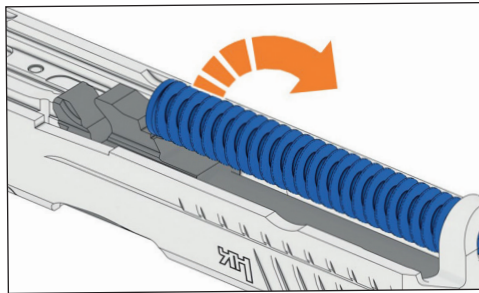

Figure 26 – Removing the recoil spring
4. Turn the slide upside down and carefully push the recoil spring forward and upward, separating the recoil spring from the barrel and slide (see Figure 26).